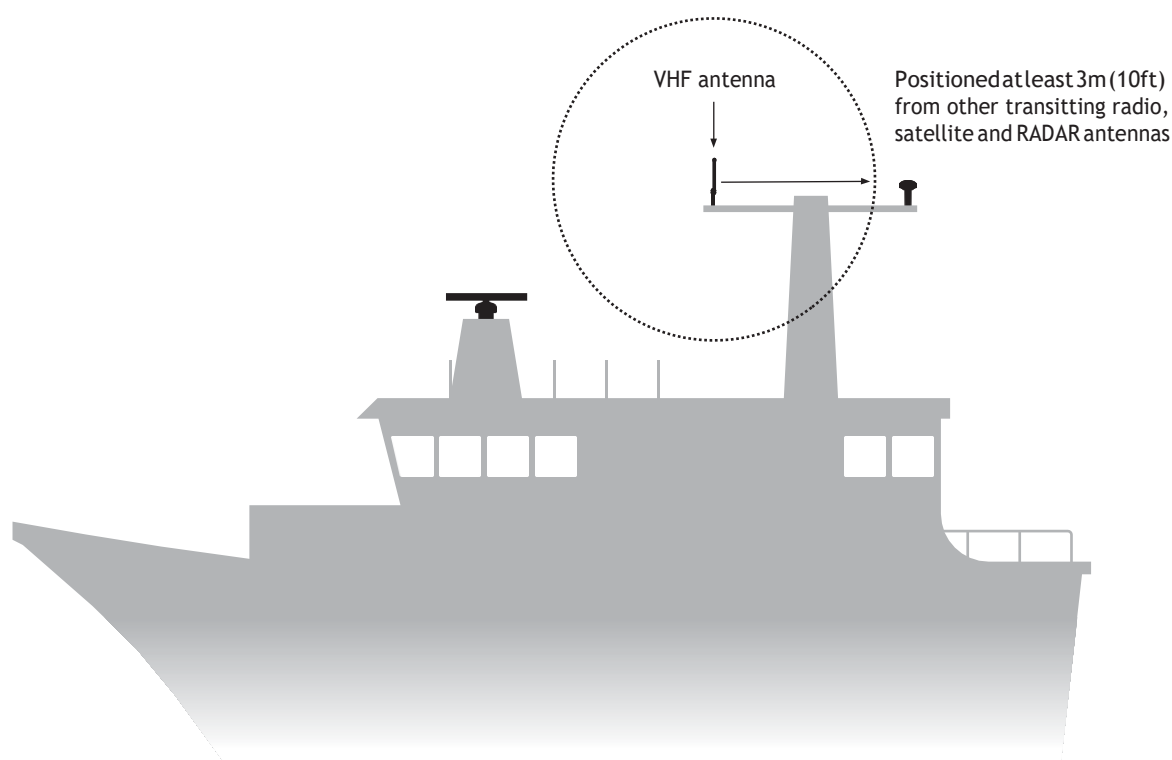

Figure 39 VHF antenna installation
- Ideally the AIS VHF antenna should be mounted directly above or below the ship's primary VHF radiotelephone antenna, with no horizontal separation and with a minimum of 2m vertical separation. If it is located on the same horizontal level as other antennas, the distance apart should be at least 10m. Refer to Figure 39 for further guidance.